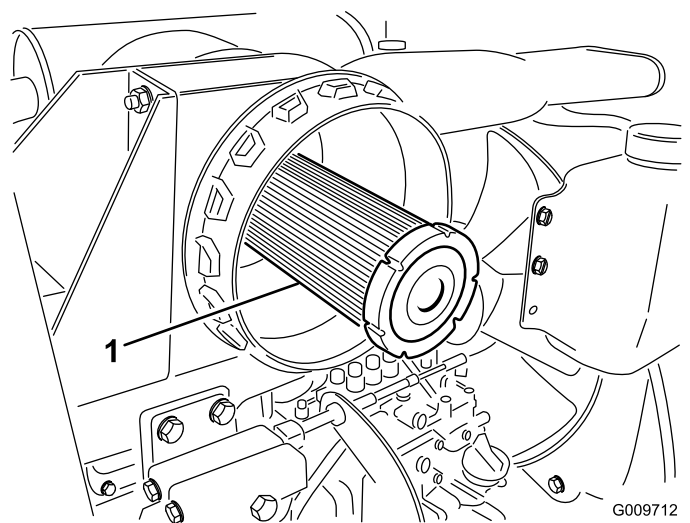

Figure 49
**Important:** Never attempt to clean the safety filter (Figure 49). Replace the safety filter after every 3 primary filter services.